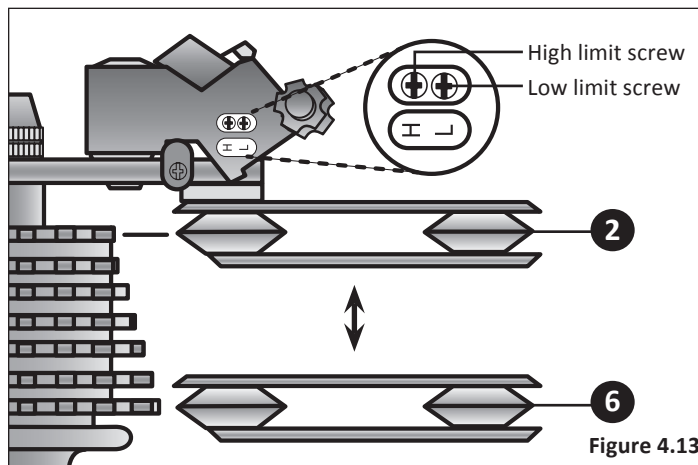

Figure 4.13
- 2 Adjust the high limit screw (H) so the guide pulley and the smallest sprocket are lined up. **Figure 4.13**
- 6 Adjust the low limit screw (L) in quarter turn increments until the guide pulley and the largest cog are aligned vertically.